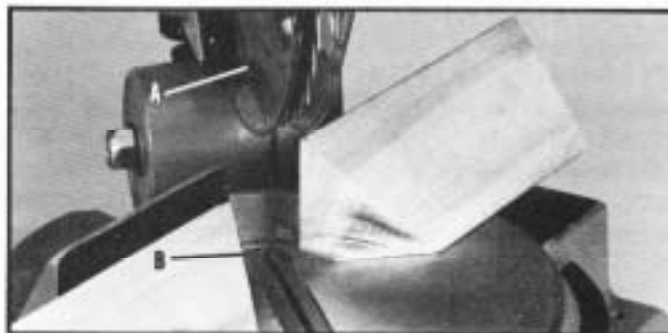

Fig. 49
Before attaching the filler blocks to the fence make sure there is clearance between the edge (A) of the movable blade guard and the edge (B) of the filler block, as shown in Fig. 49. This clearance between the blade guard and the filler block must be at both the right and left miter angles.